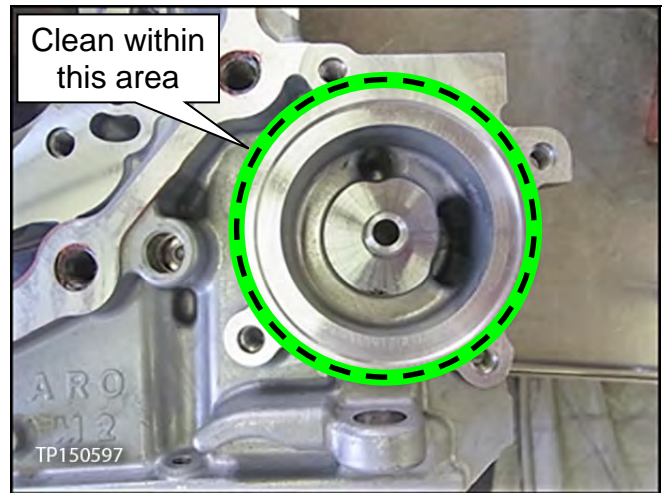

Figure 46
3. Clean the area where the CVT fluid filter fits (see Figure 46).